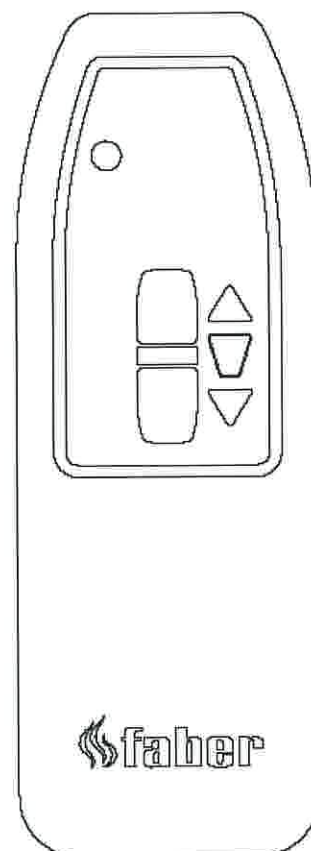

Fig.2.2
Adjust the fire as desired with the buttons at the remote control (see figure 2.2) :
- Place the batteries (fig. 2.2)